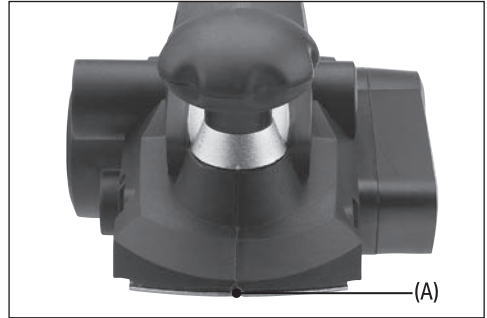

Fig. 4
7.3 Bevel Edges (Fig.4)
- Use the V-shaped groove (A) running down the front sole of the shoe plate for 45° angled bevelling of edges.